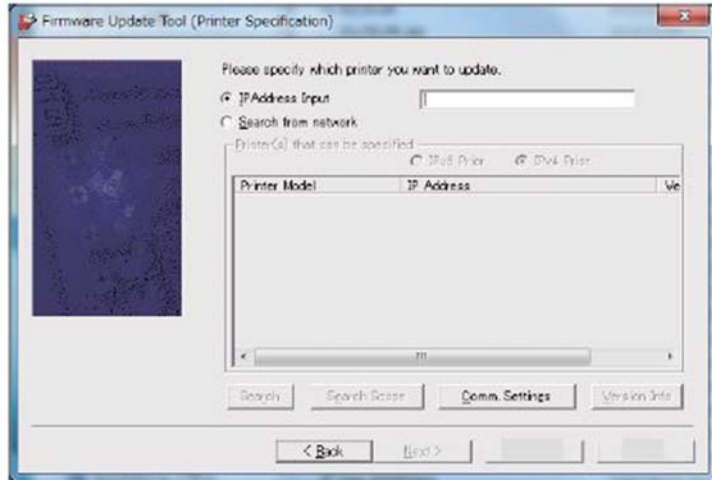

Figure 4 Printer specification
11. Specify the printer to be update on the Printer Specification screen (entering the IP address is the easiest method). Touch **Next** to start the software download, Figure 4.